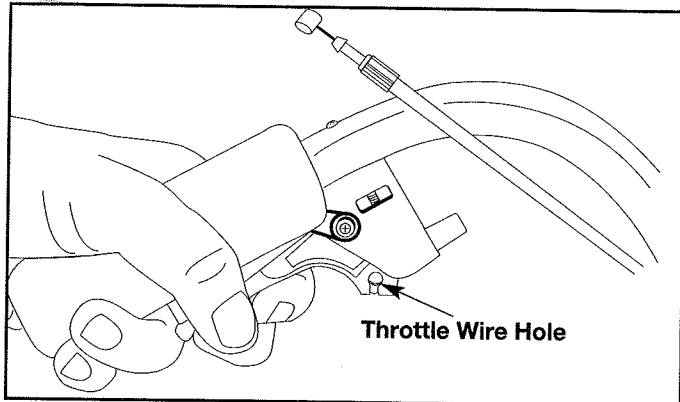

Fig. 9
2. Depress the throttle trigger and locate hole for the throttle wire (Fig. 9).